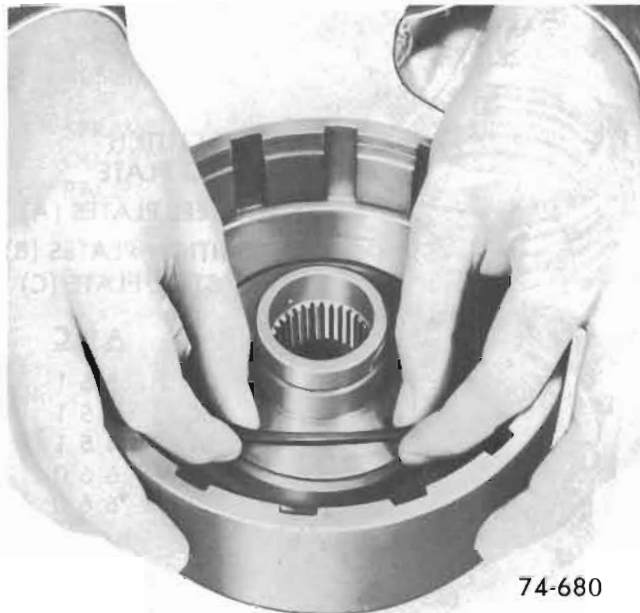

Figure 76-204
10. Remove center piston seal from direct clutch housing. See Figure 76-204.
3. Install a new center seal on clutch housing with lip of seal facing up. See Figure 76-204.